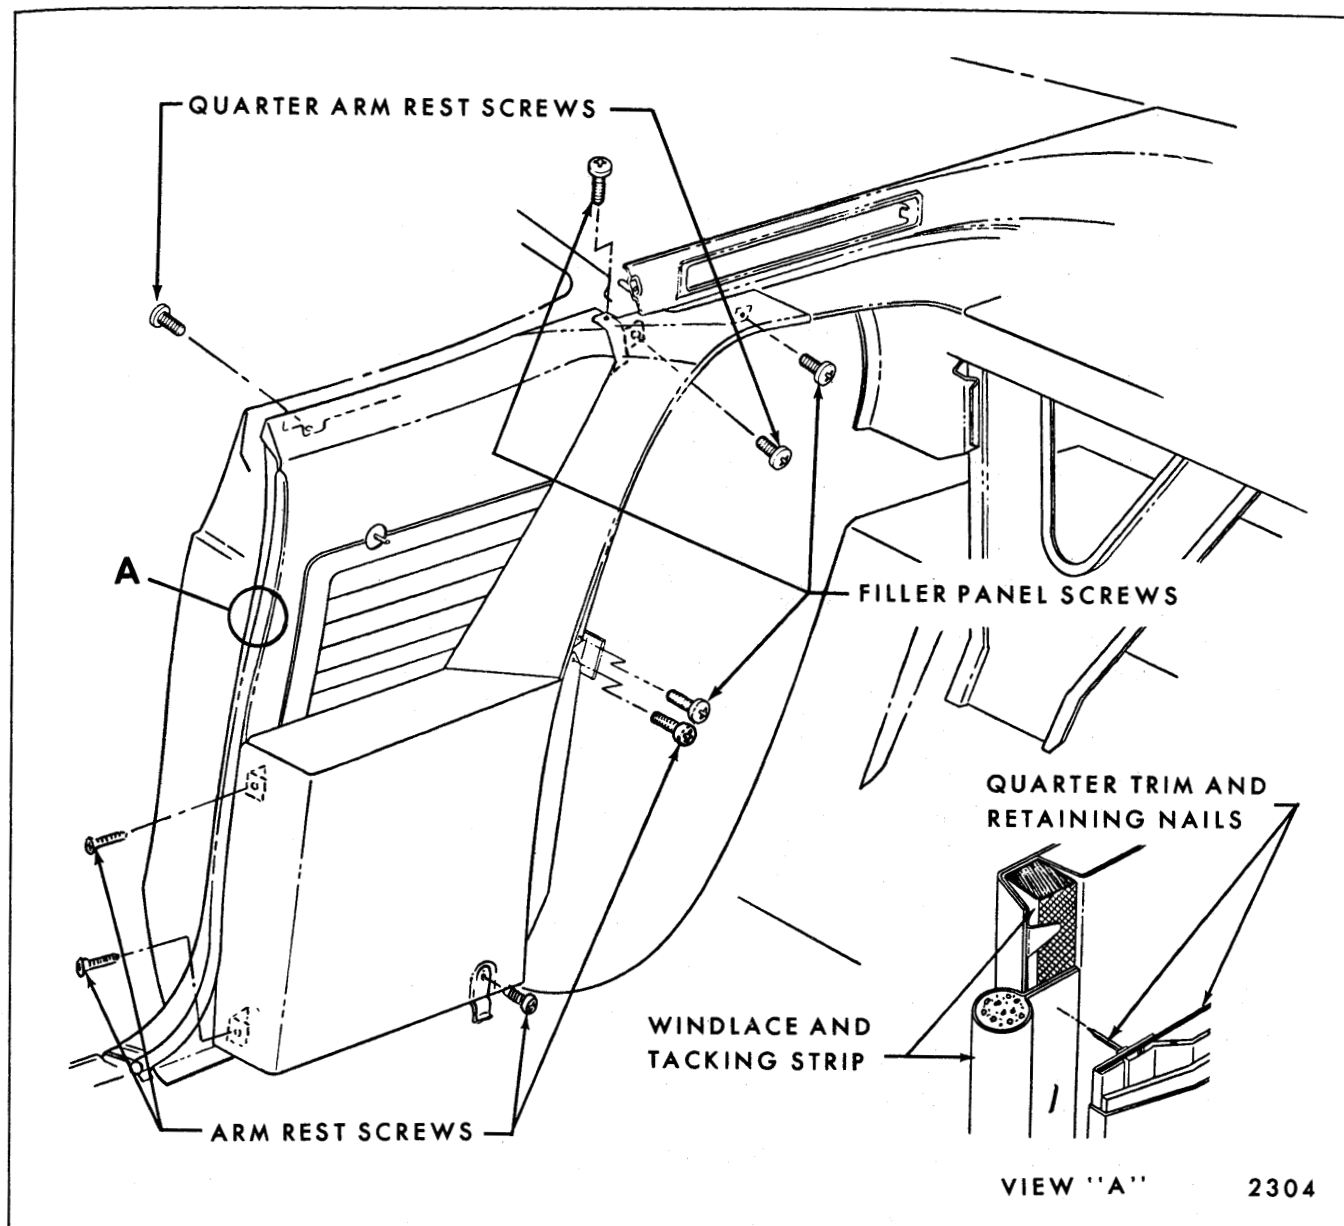

Fig. 8-10—Rear Quarter Trim Assembly - "E" Body 39487 Style
2. On Oldsmobile 39487 remove seat back filler panel attaching screws (Fig. 8-10) and remove filler panel.
3. Remove arm rest attaching screws (Figs. 8-10 and 8-11). On styles with electrical equipment in arm rest, carefully detach arm rest from quarter panel sufficiently to disconnect wire harness connectors; then, remove arm rest from rear quarter panel.